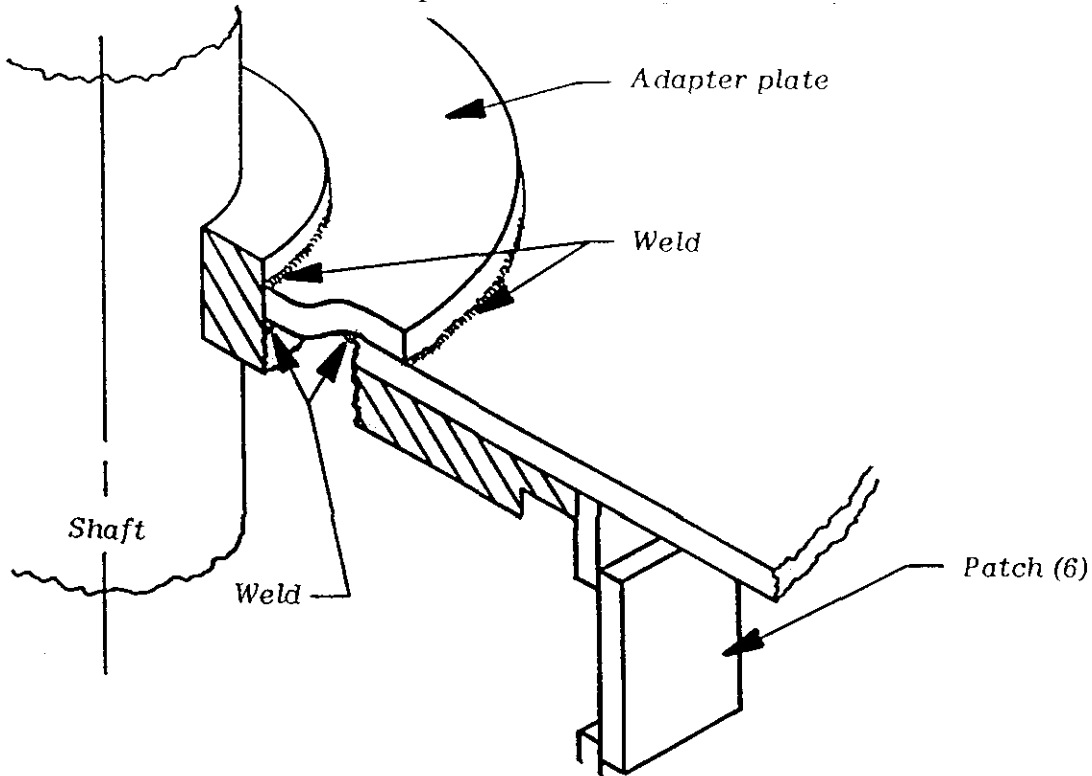

Figure 5
Step 3. Place supplied adapter plate in position shown. Make welds shown in Figure 5 below. Weld back of adapter plate through access holes. **Before welding patches over access holes be sure tunnel is free of trash.** Weld patches over access holes on all 6 sides of shaft housing.